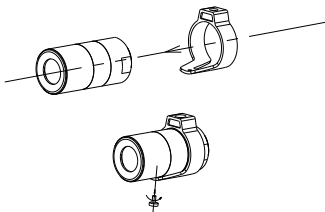

Figure 2-15 Loop the Fixed Focal Unit
4. Loop the fixed focal unit with the loop of the bracket, and tighten it with the supplied screw. As shown in Figure 2-15.